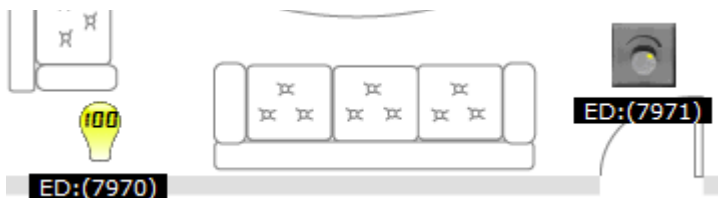

Figure 17. The Dimmable Light Level Rising to 100%
3. Press SW2 on the Dimmer Switch board 2 (two) more times. Notice how LED3 and LED4 on the Dimmable Light turn on one at a time. The ZeD GUI shows the Dimmable Light bulb icon changing state (to maximum level), the percentage value on the bulb icon rises to 100 as shown in Figure 17.